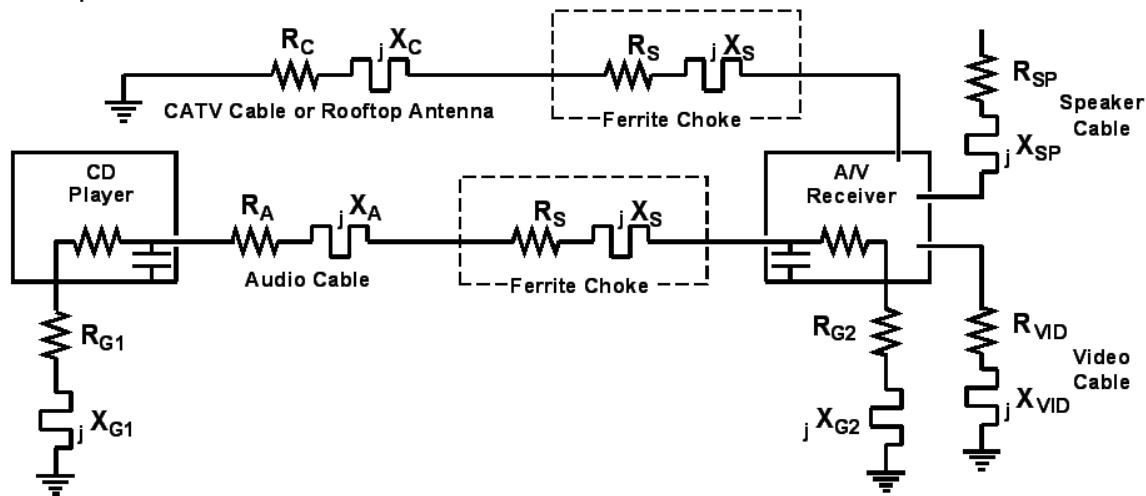
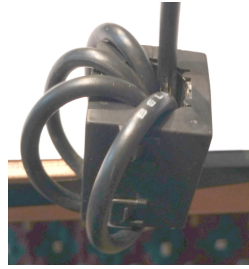
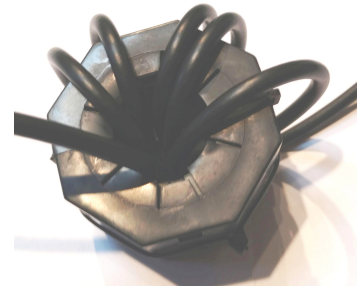

Fig 27 – A simple home A/V system
Fig 28b – 3/4" i.d.
Fig 28c – 1-in i.d.
In the system of Fig 27, the cable between the CD player and the receiver is probably quite short, and if both units are plugged into the same outlet, the loop through the power system is likely to be fairly short. Depending on how the system is set up, the video cable may be long or short. On the other hand, the coax coming from rooftop TV antenna of the CATV system (including the download for the CATV system) may be fairly long. Both are likely to be pretty decent receiving antennas. In this system, I would first try 8-10 turns of the coax around a #31 toroid, because it looks likely to be the most effective receiving antenna for my 3.5-30 MHz station. But don't rule out shorter cables for the higher bands – the cable connecting the CD player was the culprit for 10M RFI in my own living room.
**Winding Guidelines** It is important to wind turns through the ferrite core in sequence. Out-of-sequence turns cancel, raising the resonant frequency and reducing the choking impedance. Fig 28b and 28c illustrate the concept. These chokes might be used on the cables of the home entertainment system (Fig 27) or a computer monitor. The 5-turn choke (Fig 28b) is most effective on the higher HF bands, and the 6-turn choke (Fig 28c) is even better (larger core, another turn). Adding two more turns